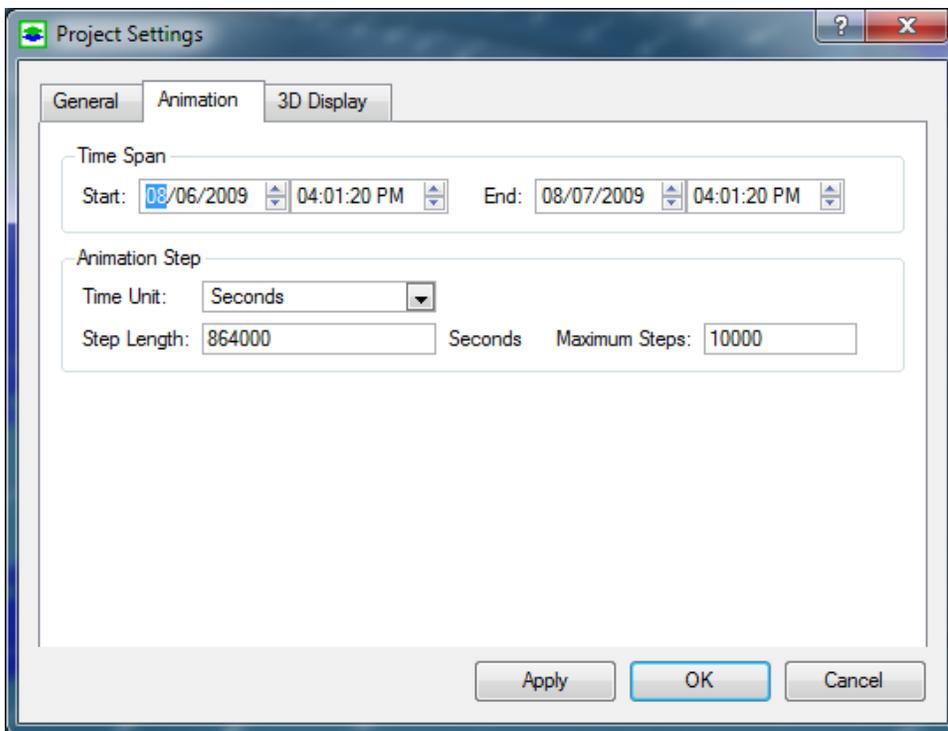

Figure 1.7. The Animation tab of the Project Settings dialog box
6.  **Time Control** toolbar: Controls the time and animation. The time control is activated only if at least one of the displayed graphical objects has time-varying properties. The time slider of the toolbar sets the Current Time of the visualization. Graphical objects that have time-varying properties may have their own time control features, which may be synced with the Current Time. The time span of the time slider is defined in the Project Settings dialog (see Figure 1.7). You can create animation video of graphical objects that have time-varying properties by following the steps below:
- *Animation Tab* (Figure 1.7): This defines the time span and time step of animation sequences. The time span group defines the limits of the time slider in the Time Control Toolbar. The animation (time) step defines the length of time that the Current Time will move when the step forward button  or the step backward button  is clicked.